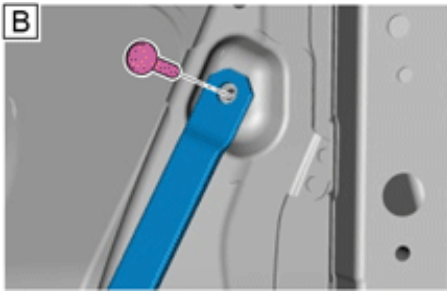

Figure 3
1) Check the torque value of bolt "B", highlighted in Figure 3, on BOTH sides of the vehicle. Refer to ElsaPro, Repair group 51 "Diagonal Strut Brace – To remove and fit".